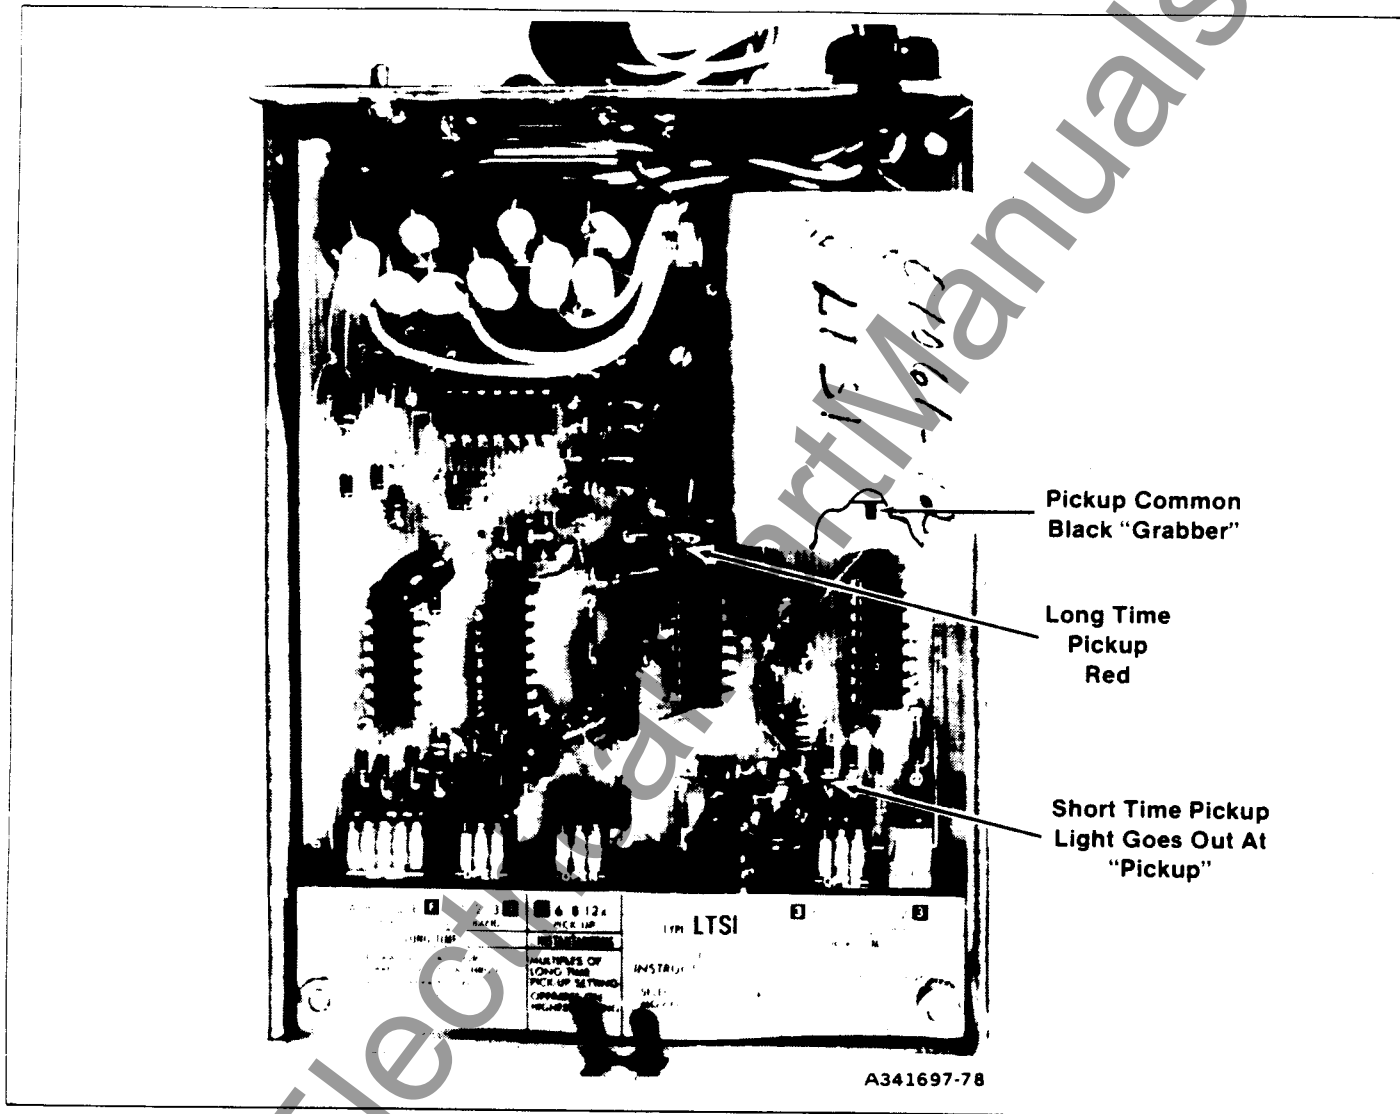

Figure 12. *LimiTrip*® Circuit Board Showing Test Points
The trigger test points are not brought out on the *LimiTrip*® device, so the cord set is provided with "Grabbers" to connect directly to the circuit board inside the device. See Figure 12 for the correct location of the test points. Connect the red "Grabber" to the long time pick-up test point and the black "Grabber" to the pick-up common test point. The red banana plug of the cord set connects to the jack assembly on the red leads of the trip device and the black banana plug to the jack assembly on the black leads of the device.
1. Connect the Red "GRABBER" to the Short Time Pick-Up test point. See Figure 12.
1. Connect the test set to the device as described under the heading "CONNECTIONS". Connect the red "Grabber" to the "Long Time Test Point" shown in Figure 12.